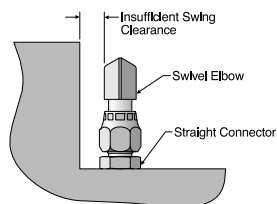

Fig. R62 — Swivel nut fitting used with straight connector in tight space
2. Swivel nut fitting should be used with a straight connector to allow for connections in tight spaces, where an elbow or tee fitting cannot be fully rotated (see Fig. R62).